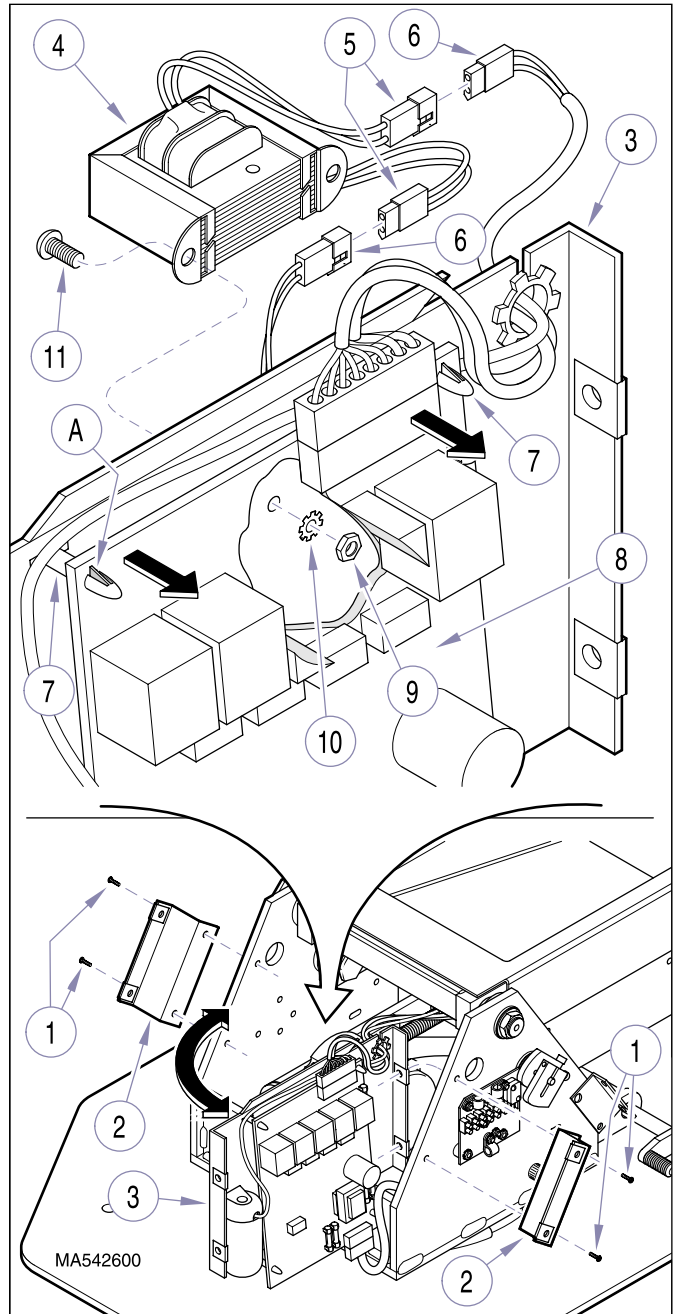
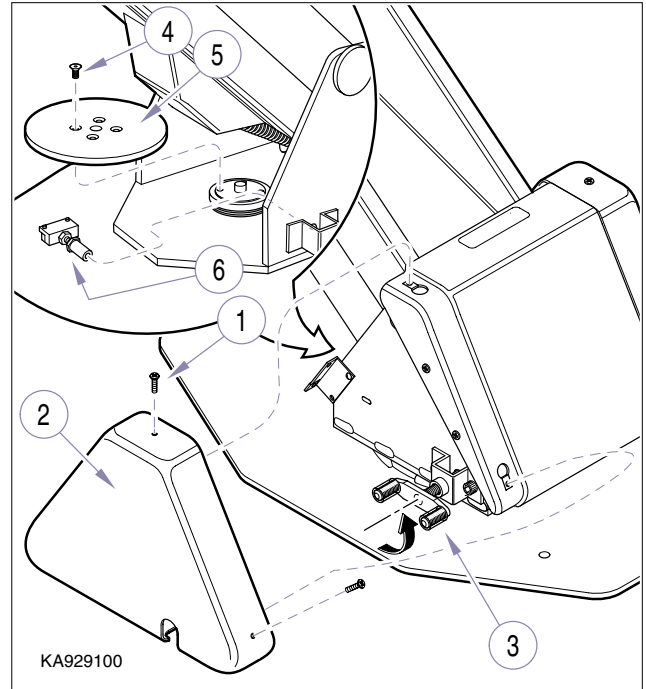

Figure 4-23. Lamp Transformer Removal / Installation
Figure 4-22. Lock Block Removal.
- (3) Remove three screws (1) and L.H. base cover (4) from center base cover (3).
- (4) Remove four screws (5) and center base cover (3) from two cover mounting brackets (6).
- (5) Remove four screws (1, Figure 4-23) and two cover mounting brackets (2) from mounting plate (3).
- (1) Install lamp transformer (4, Figure 4-23) on mounting plate (3) and secure with two screws (11), lockwashers (10), and nuts (9).
- (2) Push down on two top corners of PC circuit board (8) until locking tabs (A) of two standoffs (7) pop out, locking PC circuit board in place.
- (3) Connect two transformer harnesses (5) to two wire harnesses (6).
- (4) Position mounting plate (3) back in its normal position, making sure all wire harnesses are routed correctly.
- (5) Secure mounting plate (3) in place with two cover mounting brackets (2) and four screws (1).
- (6) Install center base cover (3, Figure 4-22) on two cover mounting brackets (6) and secure with four screws (5).
- (7) Install L.H. base cover (4) on center base cover (3) and secure with three screws (1).
- (8) Install R.H. base cover (2) on center base cover (3) and secure with three screws (1).
- (9) Plug chair power cord into wall outlet receptacle.
- (2) Unplug chair power cord from wall outlet.
- (3) Remove three screws (1, Figure 4-22) and R.H. base cover (2).